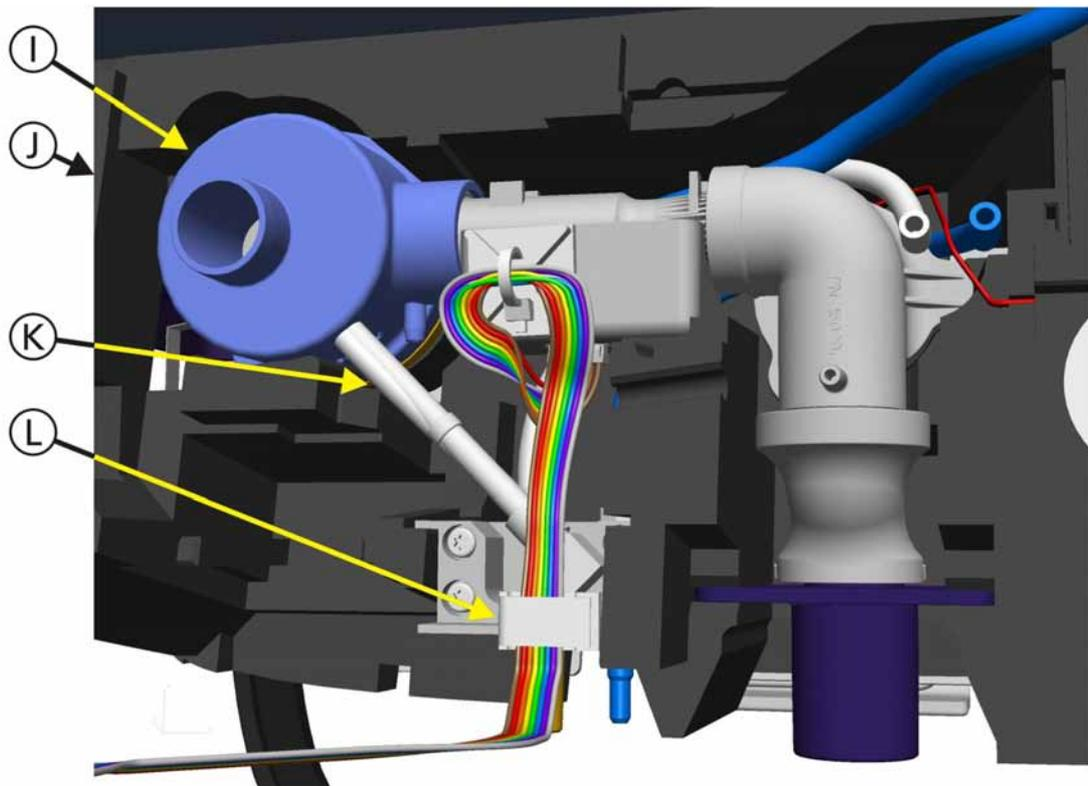

Figure 11-61. Inspiratory Valve, Qvent Flow Sensor and Ambient Valve Assembly, Step 2
- Figure 11-61, *Inspiratory Valve, Qvent Flow Sensor and Ambient Valve Assembly, Step 2*, on page 11-68